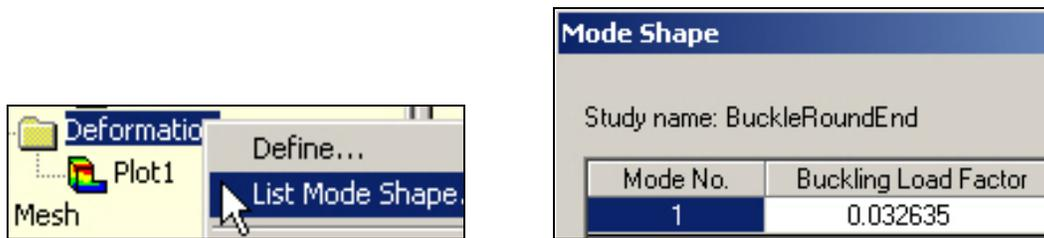

Figure 5 First buckling mode load factor
2. In the **Mode Shape panel**, Figure 5, read the BLF value of about 0.03.